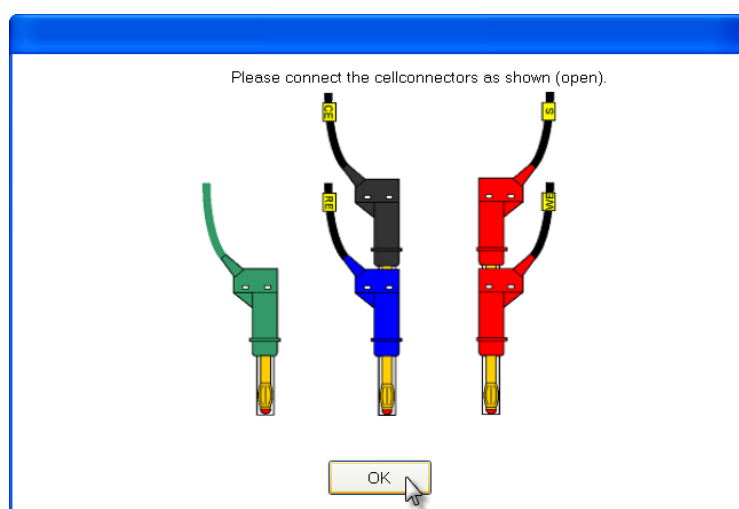

Figure 227 – When the diagnostics are performed with the PGSTAT101, connect RE to CE and S to WE as shown in the visual reminder
Note: the PGSTAT101 is equipped with an internal dummy cell. When the diagnostics tests are performed on this instrument, the reference (RE) and counter (CE) electrode leads must be connected together on one hand and the working (WE) and sense (S) electrode leads must be connected together on the other hand. Make sure that RE/CE and S/WE are not in contact. A reminder is shown at the beginning of the diagnostics (see Figure 227).